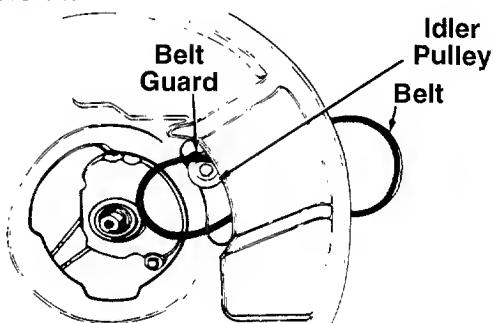

FIGURE 14.
8. Remove the belt from between the idler pulley and the belt guard on the idler pulley bracket. See figure 14.
A. Push the idler pulley up out of the way as shown in figure 14.